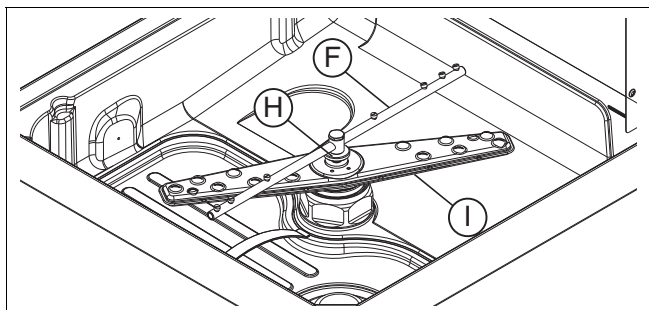

Figure 25 Wash and rinse arms
- Remove the upper and lower wash arms "F" and rinse arms "I", undoing the ring nut "H" (Figure 25).